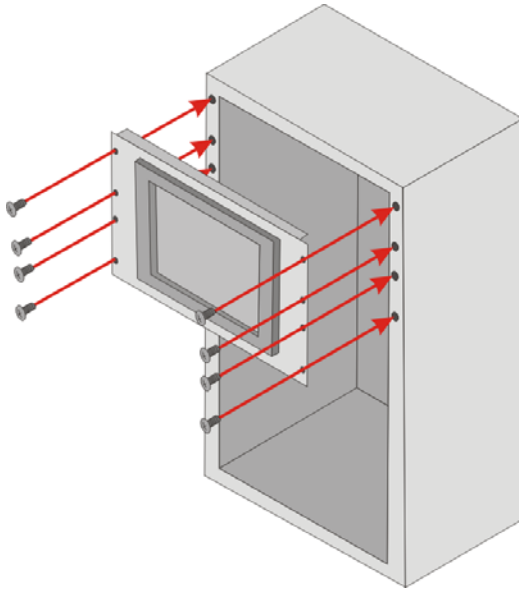

Figure 3-16: Install into a Rack/Cabinet
- Step 4:** Slide the PPC-F06B-BT with the attached rack/cabinet bracket into a rack or cabinet (**Figure 3-16**).
Step 5: Once the flat panel PC with the attached rack/cabinet bracket has been properly inserted into the rack or cabinet, secure the front of the rack/cabinet bracket to the front of the rack or cabinet (**Figure 3-16**).